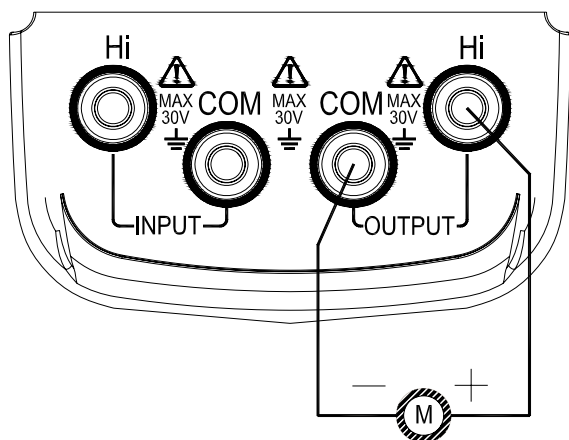

Figure 5-1
1. Insert the testing probe into the jack of the meter's output terminal (OUTPUT), and connect the other end with input terminal of the Users' meter, see Figure 5-1:
1. Insert the testing probe into the jack of the meter's output terminal (OUTPUT) and connect the other end with input terminal of the Users' meter, see Figure 5-1;
3. Press  $\{\text{FUN}\}$  key , select thermocouple(TC) function, and display '°C' unit and 'R' graduation no.;